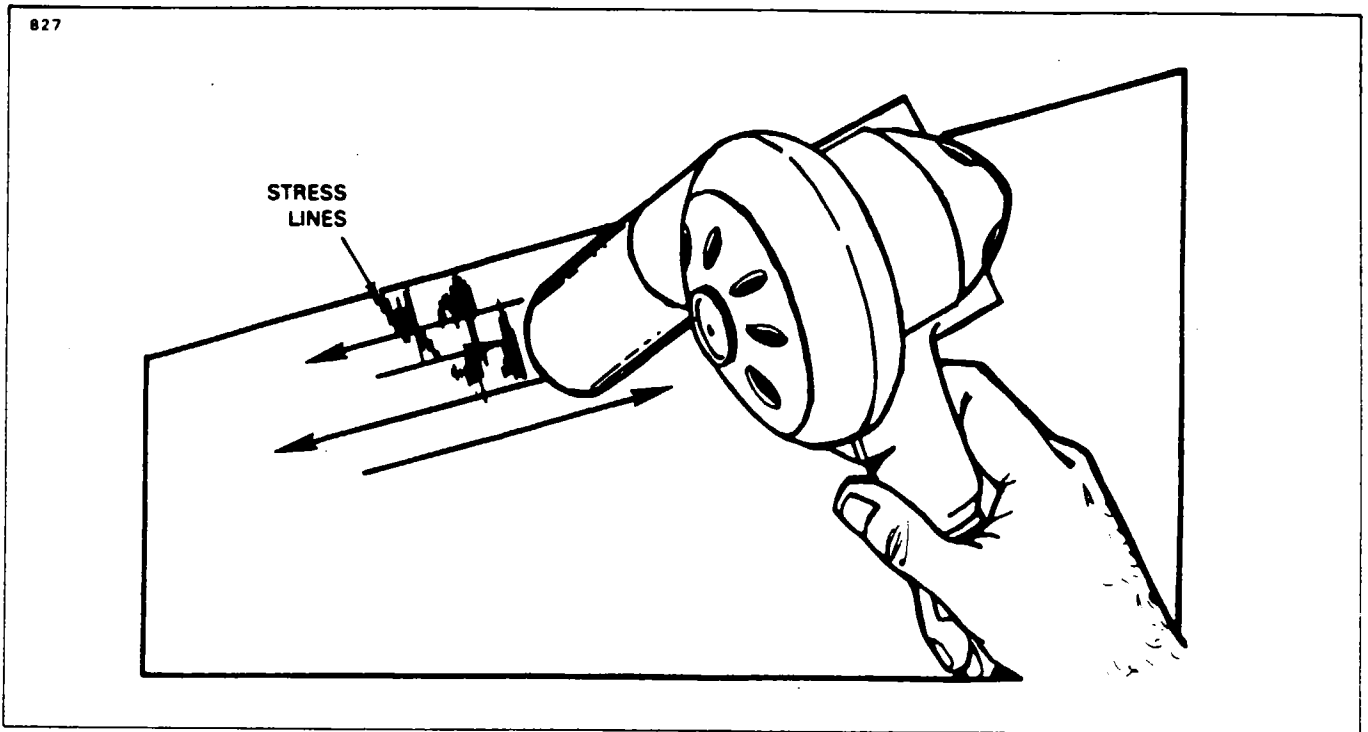

Figure 51-9. Repair of Stress Lines
- 6. Stress Lines: (Refer to Figure 51-9.)